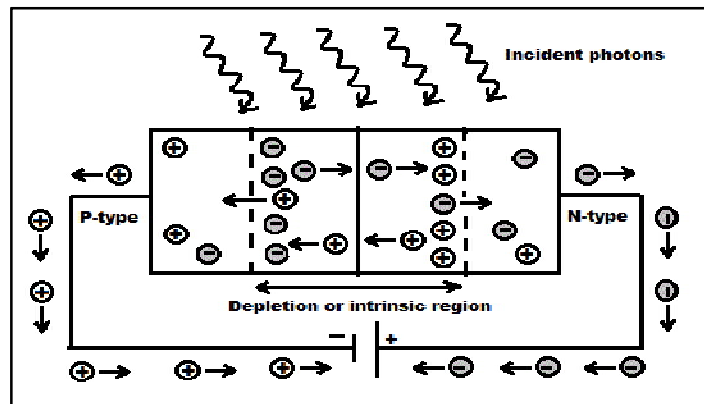

Fig.2.13: Working Principle of photodiode
- Therefore, the holes move towards the cathode, and electrons move towards the **anode**, and a photocurrent is generated as shown in fig.2.13. Optical excitation leads to an increase in the reverse-biased current.